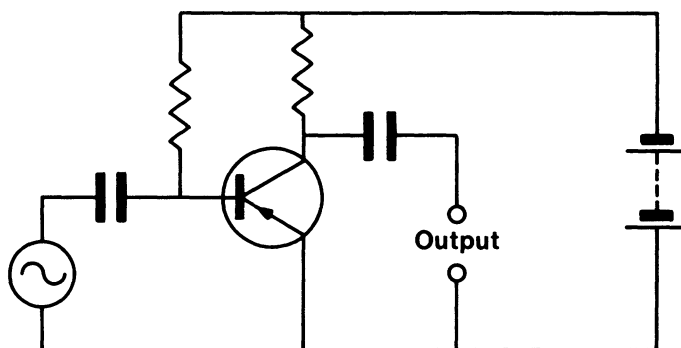

FIG. 3.67
50. Study the simple circuit shown in Fig. 3.67.